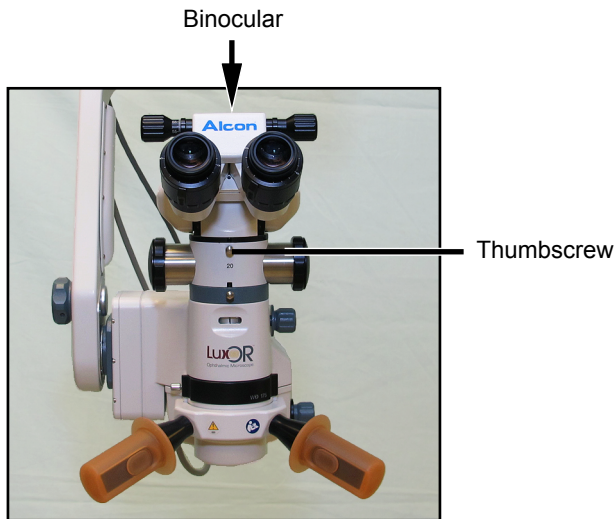

Figure 6-3 Replacing the Binoculars
3. Place the binocular on top of the beam splitter and tighten beam splitter locking thumbscrew securely, (Figure 6-3).